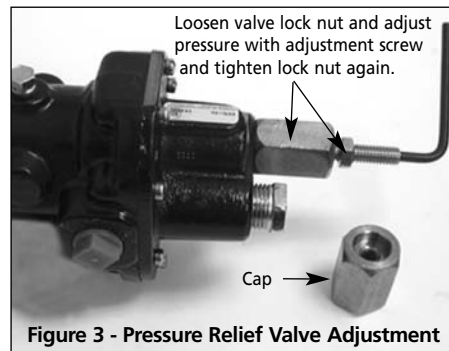

Figure 3 - Pressure Relief Valve Adjustment
7. To increase the pressure relief valve pressure setting, remove cap (See Figure 3 & 13, Ref. No. 31), then loosen lock nut (See Figure 13, Ref.
No. 36), then turn the set screw (See Figure 13, Ref. No. 32) in (clockwise). Turning the set screw out (counterclockwise) will reduce the pressure setting. When desired pressure is achieved, tighten lock nut and reinstall protective cap (See Figure 3).